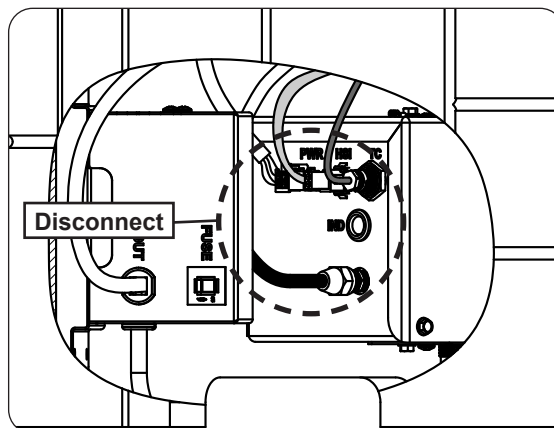

Fig. 28-1 Disconnect pilot line, thermocouple, and hot surface igniter from control box
1. Disconnect the pilot line, thermocouple, and hot surface igniter from the control box (see Fig. 28-1).